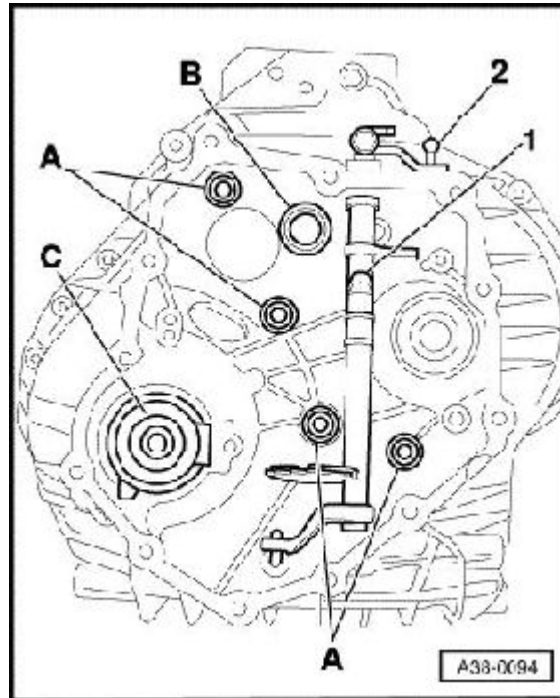
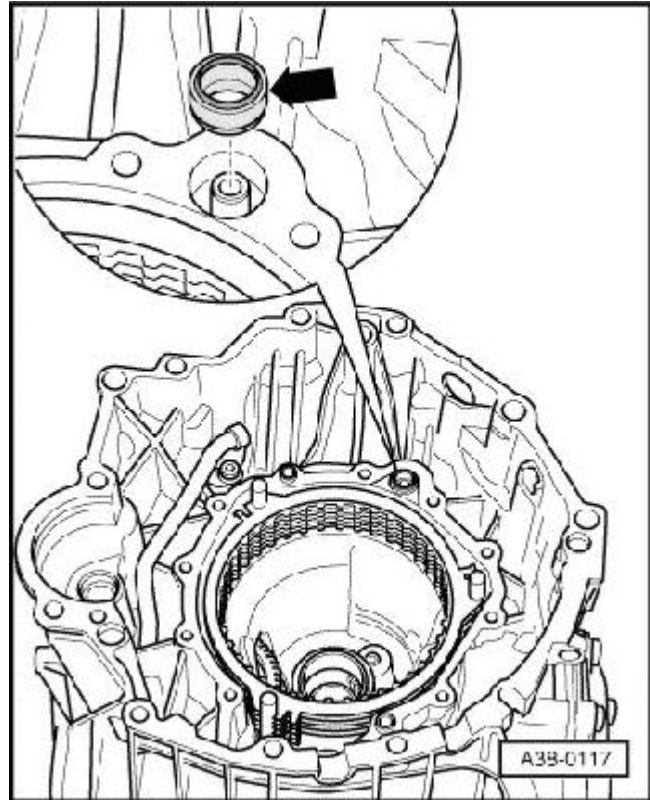

Figure 1.
Figure 2.
A. If the complaint occurs in **D** and **MVB10/1** is above 380 mA, replace only the 4 axial seals (**01J301547F**, as shown in Figure 1, A) at the valve body.
B. If the complaint occurs in **R**, replace all 4 axial seals (**01J301547F**, as shown in Figure 1, A) at the valve body and the axial seal in the input shaft area (**01J301547F**, as shown in Figure 2.)